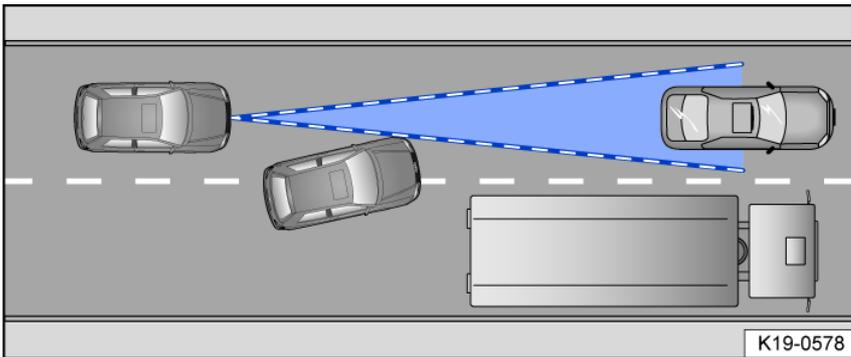

Fig. 132 Changing lanes.
- If vehicles change to your lane close in front of your vehicle *fig. 132*.